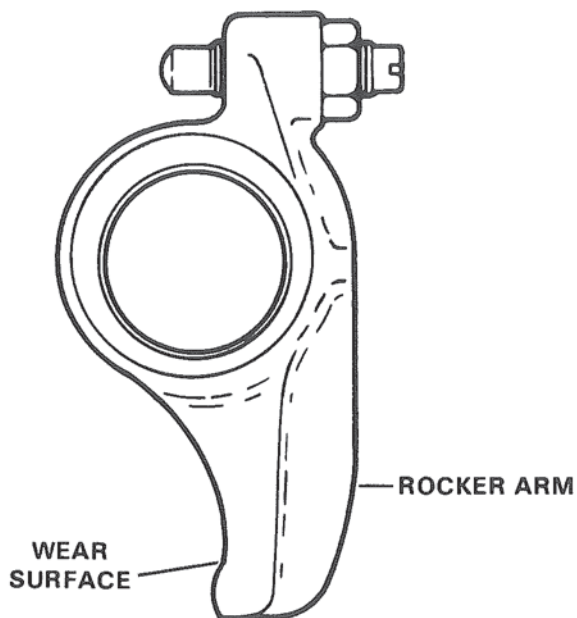

Figure 4. Checking Rocker Arm.
1. Check valve cap contact surface for wear. Figure 4.